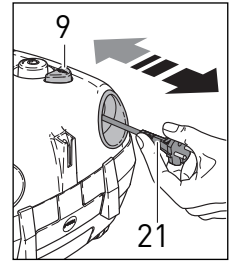
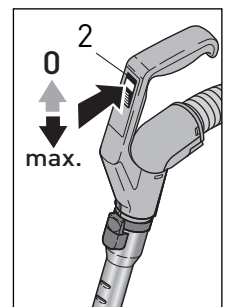

Figure 1
Figure 10
Starting The Machine - Figures 1, 2 & 3
1. With the canister main power control knob (10) in the OFF position, grasp the plug and pull the power cord (21) out from the power cable recess (figure 1). The power cord (21) should be unwound from the cable reel at least two thirds of its length. **Note:** do not over-extend the cord.
3. Press the main power knob on the base of the canister (10) gently with your foot or hand. A blue light will illuminate indicating that the power is on.
Operating the Machine - Figures 1, 4, 5, 6, 7 & 8
To retract the cord, switch the vacuum off, unplug it from the outlet, then push the power cable rewind button (9, figure 1) and the mechanism will automatically rewind. Before rewinding the cable, always switch off and unplug the vacuum. Hold the plug while rewinding the cord onto the cord reel. Avoid letting the plug whip while rewinding.
Starting The E3 Premium and Suction Control - Figures 1, 2, 9 & 10
1. With the canister main power control knob (10) in the OFF position, and the power control slider on the handle (2, figure 10) in the OFF position, pull the power cord out from the base of the canister (figure 1). The power cord should be unwound from the cable reel at least two thirds of its length.
4. Slide the Power Control Slider (2, figure 10) toward the MAX position. It will move freely between 0 suction and MAX suction. Set the slider to the suction desired.
Operating The E3 Premium - Figures 1, 11 & 12
To retract the cord, switch the vacuum off, unplug it from the outlet, then then push the power cable rewind button (9, figure 1) and the mechanism will automatically rewind. Before rewinding the cable, always switch off and unplug the vacuum. Hold the plug while rewinding the cord onto the cord reel. Avoid letting the plug whip while rewinding.